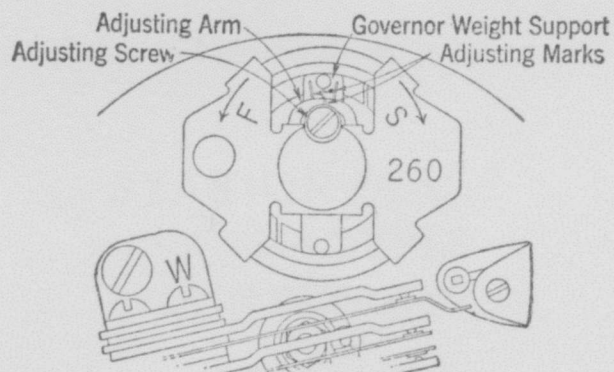

Fig. 5.
- 3.08 To adjust the speed of a dial, place the 260 tool on the dial governor so as to hold the movable parts of the governor, as shown in Fig. 5.